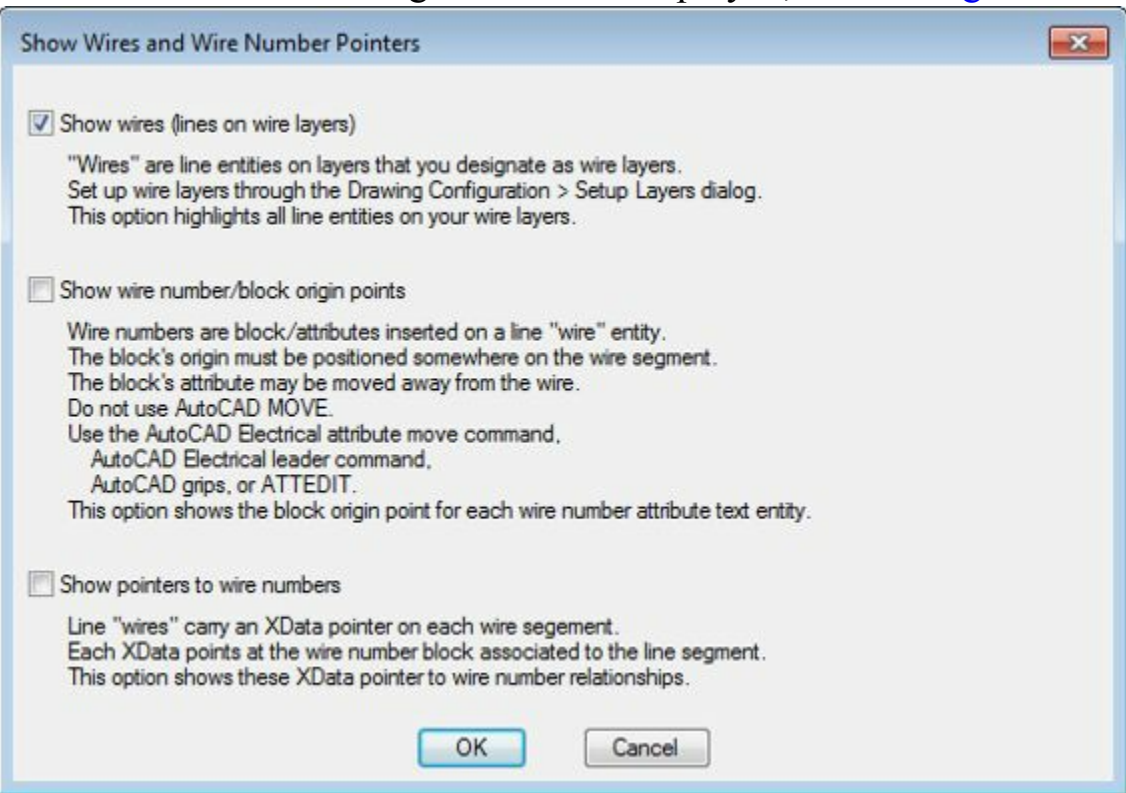

Figure-64. Show Wires and Wire Number Pointers dialog box
- Click on the **Show Wires** tool from the **Wire Editing** drop-down. The **Show Wires and Wire Number Pointers** dialog box will be displayed; refer to Figure-64.